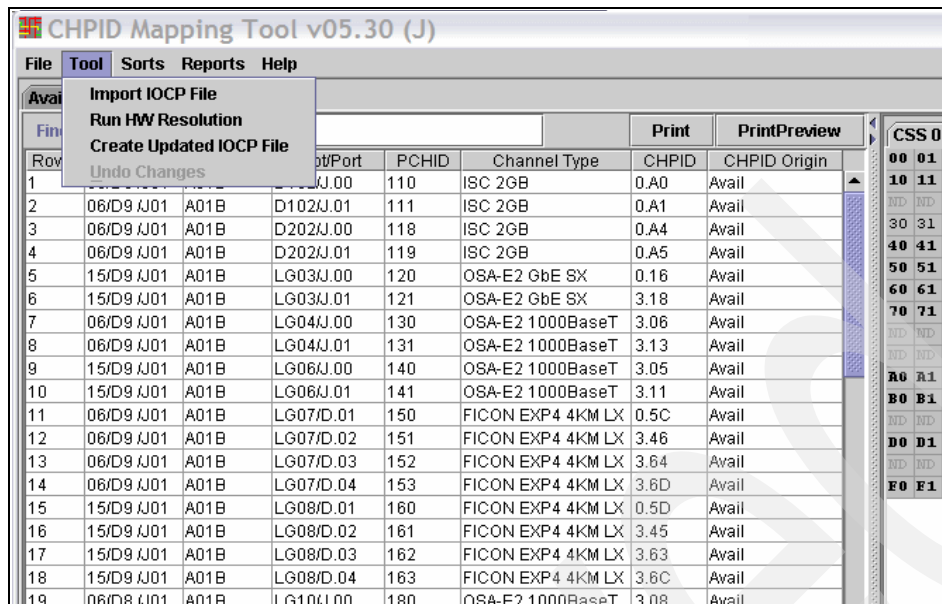

Figure 6-31 CMT - Create Updated IOCP File
1. Click **Tool** → **Create Updated IOCP File** (Figure 6-31).